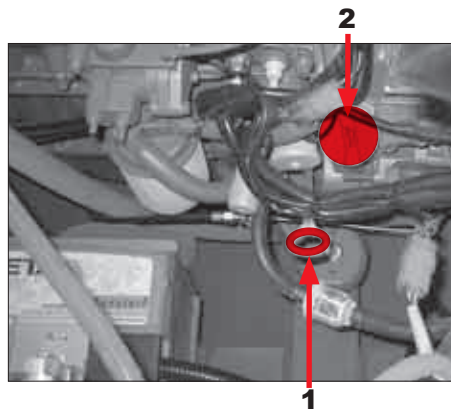

Fig. 75
Check the oil level (Fig. 75, location 1) according to the maintenance schedule and confirm that the level is between the minimum and maximum marks.
If the level is at or below the minimum level add the specified oil (Fig. 75, location 2) before operating the engine.
6. Pull out the dip stick (left side of the engine; Item 1 Fig. 75).
1. Open the oil filler neck Item 2 (Fig. 75).
5. Close the oil filler neck Item 2 (Fig. 75).
3. Open the oil filler neck Item 2 (Fig. 75):
7. Close the oil filler neck Item 2 (Fig. 75):